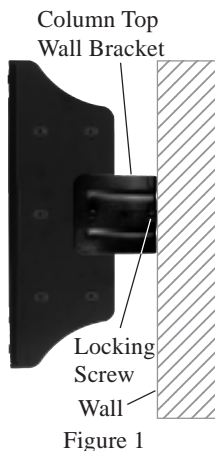

Figure 1
2. Remove the long Locking Screw from the Wall Mounting Bracket located at the top of the XRT29/XRT30 Column. Refer to figures 1 and 3.